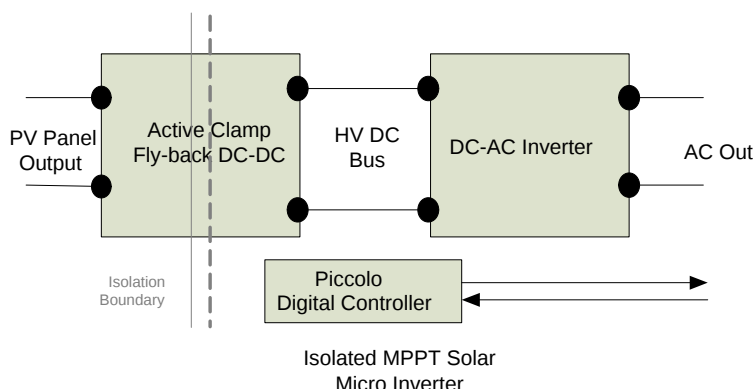

Figure 2. Micro Inverter Block Diagram
The TMDSSOLARUINVKIT hardware consists of two stages: (1) an active clamp flyback converter with a secondary voltage multiplier and (2) a DC-AC inverter. A block diagram of the kits is shown in Figure 2.